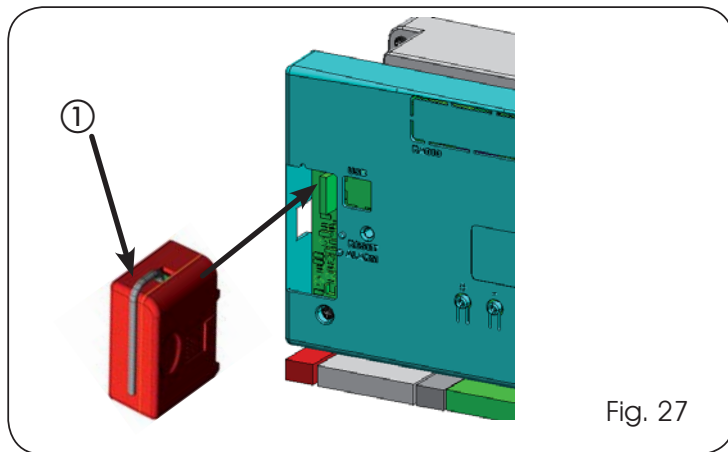

Fig. 27
The control unit has an integrated 2-channel decoding system (DS, SLH, LC/RC) named OMNIDEC. This system makes it possible to save both total opening (OPEN A) and partial opening (OPEN B) of the automated system - this is made possible by an additional receiver module (fig.27 ref. ①) and radio controls on the same frequency.